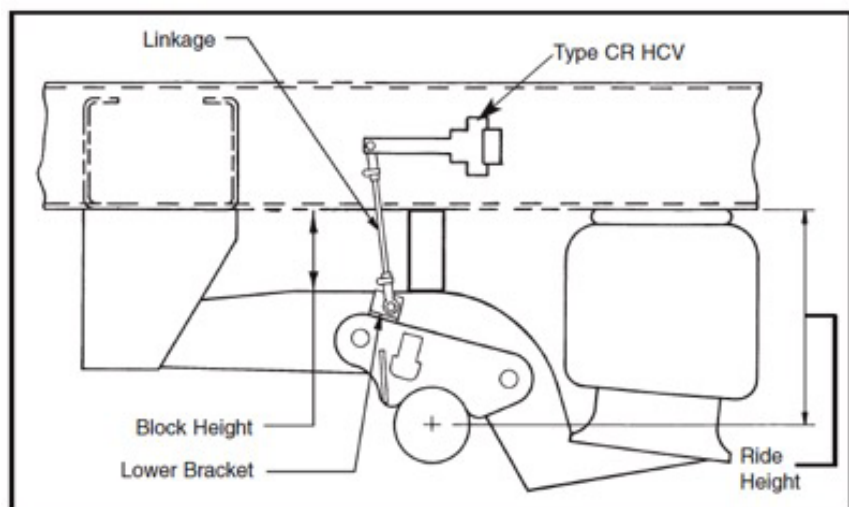

Figure 3. Block Height
7. Raise the suspension by moving the control arm of the Height Control valve up. Either place spacer blocks between the frame and axle or jack stands between the vehicle frame and ground. (Figure 3 and 4)